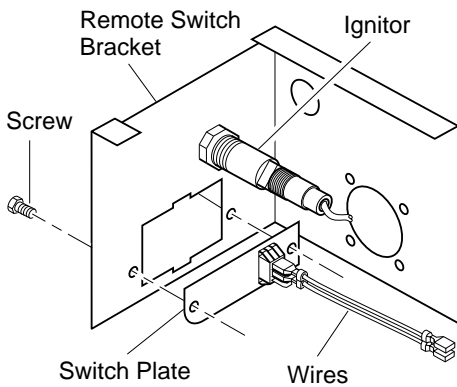

Figure 31 - Switch Plate and Wiring Harness
3. Remove switch plate (see Figure 31). Discard after removing.